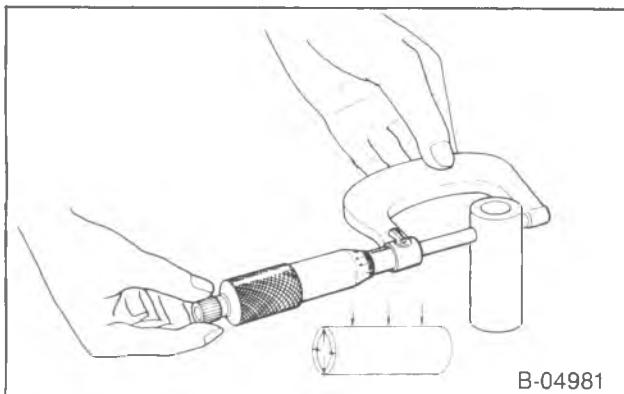

Figure 8—Measuring Piston Pin Diameter
Measure (Figures 8 and 9)
1. Piston pin diameter (figure 8). Check against "Specifications."
Measure (Figures 8 and 10)